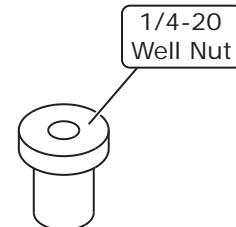

Figure 2
- Install (2) 1/4-20 well nuts into the evaporator front mounting locations (See Figures 2 and 3, below).